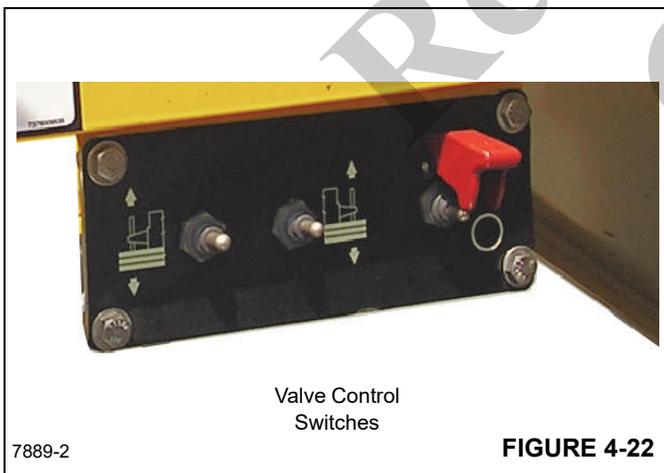
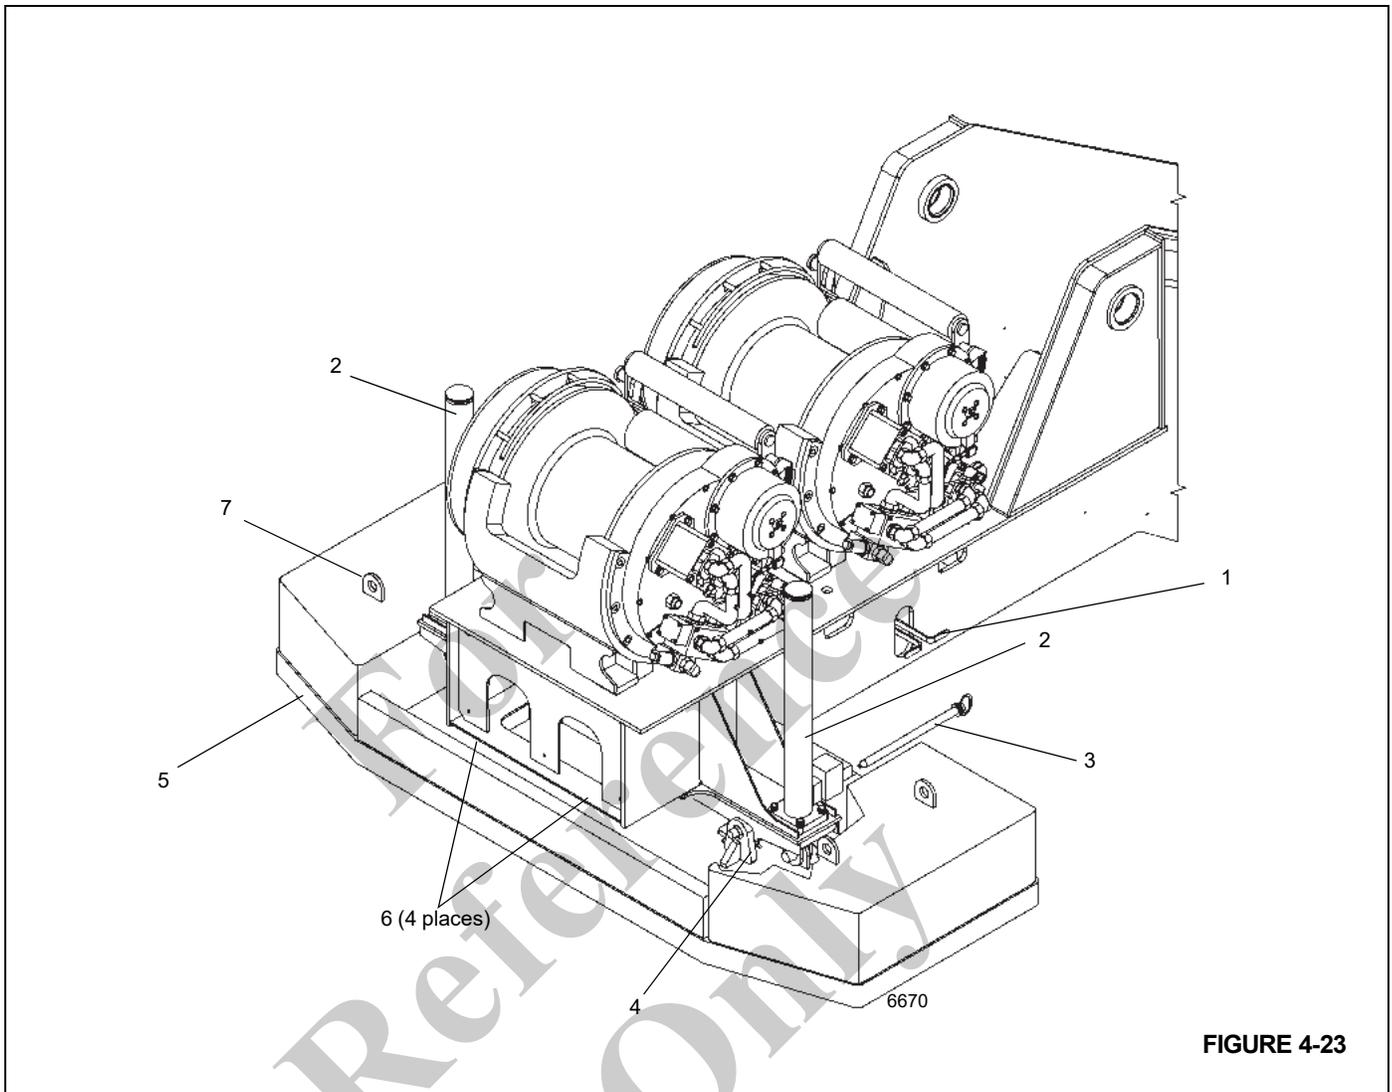

FIGURE 4-22
FIGURE 4-23
3. Using the counterweight removal control valve switches (Figure 4-22), raise the counterweight cylinders to relieve weight on the upper attach pins.
5. Using the counterweight removal control valve switches (Figure 4-22) and (Figure 4-23) located on either side of the turntable, lower the counterweight cylinders. Pin the cylinders to the counterweight using the attach pins in the cylinders. Insert the retaining pins in the attach pins.